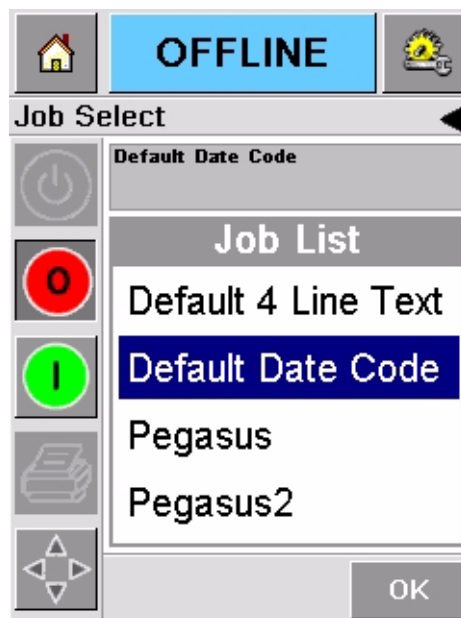

Figure 4-5: Job Selection
- 2 Touch the name of the required job in the list, as shown in Figure 4-5 on page 4-4 and then touch ok.